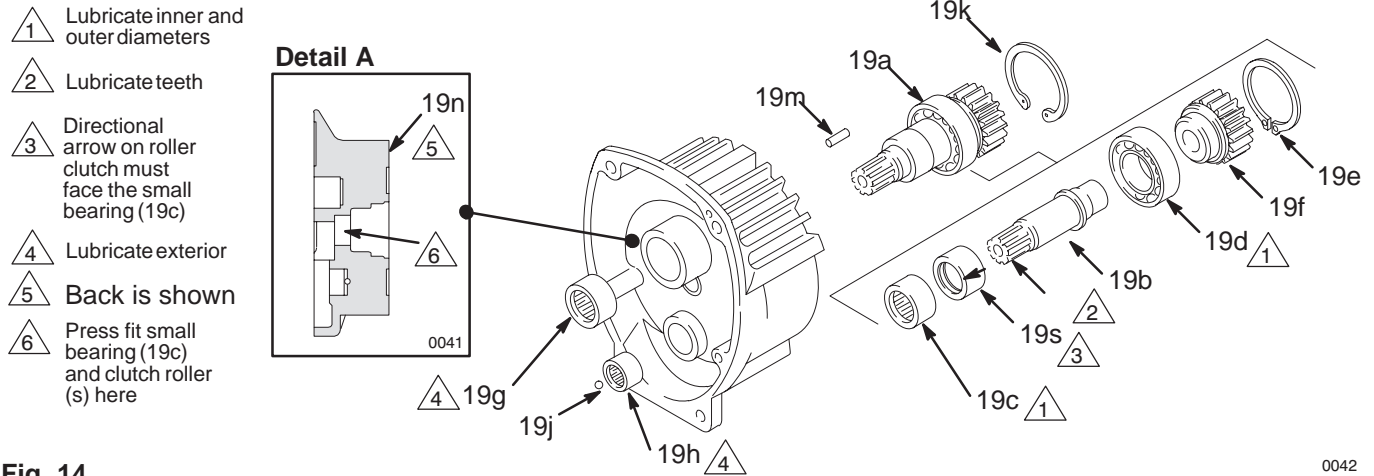

Fig. 14
NOTE: Refer to Fig. 14 except where noted.
5. Apply lubricant to the parts as shown in Fig. 14.
- Small bearing (19c) and then the roller clutch (19s), with the directional arrow facing the small bearing, into the rear of the housing (19n). See Detail A in Fig. 14.